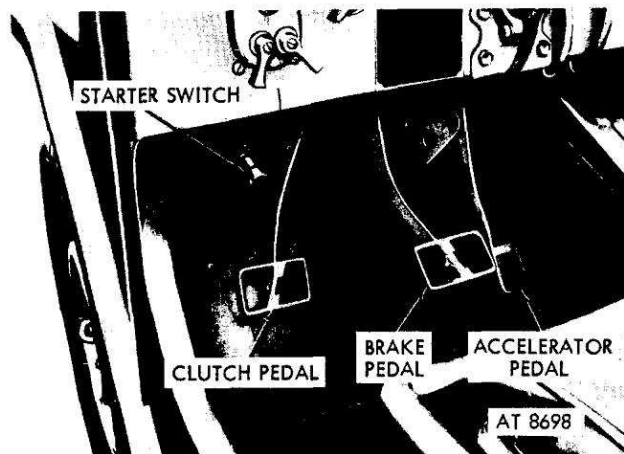

Figure 2-9. Starter switch and clutch pedal.
f. Depress clutch pedal and depress starter switch with toe (figs 2-9, 2-1-(Q), 2-1-(N)). Release the starter switch when engine starts.
b. Depress clutch pedal (figs 2-9, 2-1-(N)).
f. Slowly release clutch pedal (figs 2-9, 2-1-(N)) to engage clutch. Depress accelerator pedal (figs 2-9, 2-1-(L)) to increase engine speed.